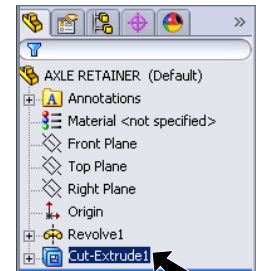

Fig. 18
Step 3. Click **Cut-Extrude1** in the Feature Manager to select the feature, Fig. 18.